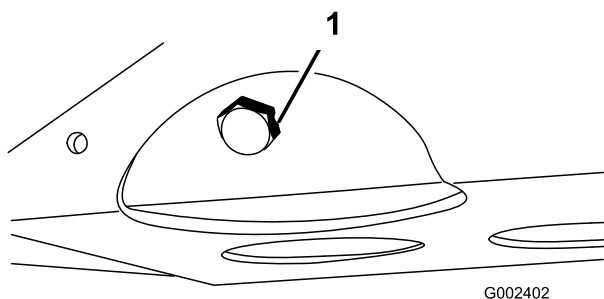

Figure 44
2. Remove the drain plug and let oil flow into a drain pan (Figure 44).